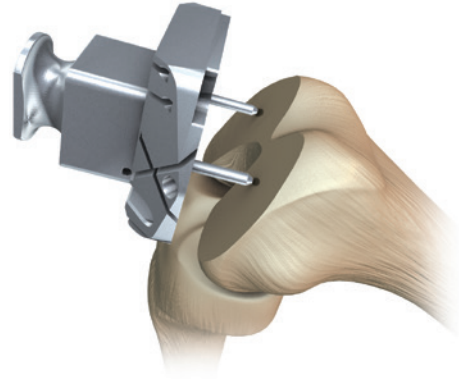

Figure 27
1. Position the spikes on the DCF A/P Femoral Block into the pre-drilled holes (Figure 27). Use the Mallet to impact the A/P Block assembly until the block is flush with the resected distal femur. Remove the A/P Block Impactor.